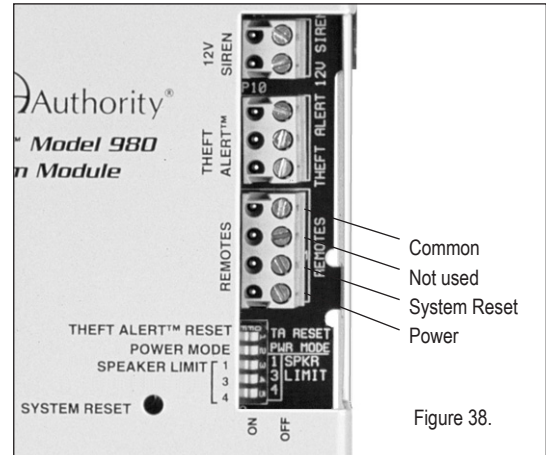

Figure 38.
- Connect a SPST switch between the “Reset” and “COM” pins on the “Remotes” terminal block located on the 980 (see Figure 38).